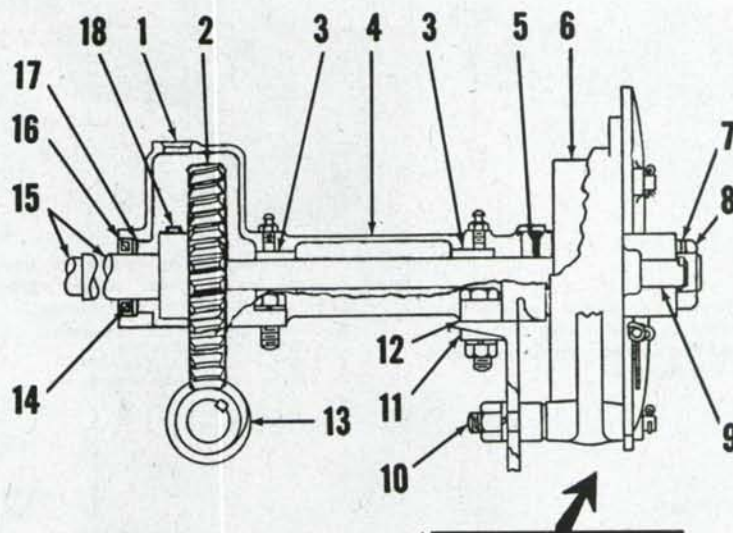

Fig. AC182—Models RC, and WC mechanical type power lift unit which is mounted on top of the torque tube.
340. To disassemble the power lift, remove the unit from the tractor. Remove pin (18—Fig. AC182) from worm gear (2) and drive power lift shaft (15) out far enough to remove pin (5) from ratchet (6). The need and procedure for further disassembly will be determined by an inspection of the parts and by reference to Fig. AC182. When reinstalling unit on tractor, vary number of gaskets between housing and torque tube to provide a slight amount of gear backlash and install sufficient shims (12) between housing and frame to assure correct alignment.